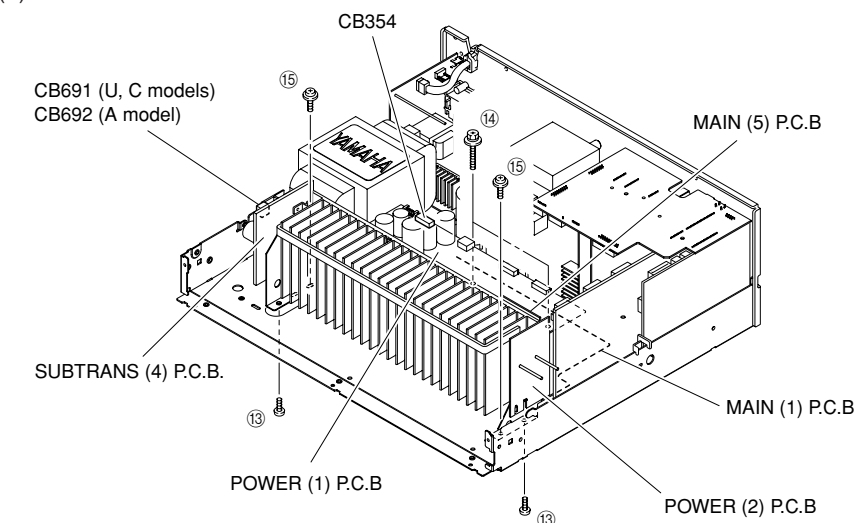

Fig. 7
**5. Removal of MAIN (1), (5), POWER (1), (2) and SUBTRANS (4) P.C.B.s**
- Remove connector CB354 and CB691 (U, C models)/ CB692 (R, T, K, A, B, G, E, L, J models). (Fig. 7)
- Remove 2 screws (13). (Fig. 7)
- \* Arrow marks (→) are printed to identify the screws (13) to be removed.
- Remove 2 screws (14) and 2 screws (15). (Fig. 7)
- Remove the MAIN (1), (5), POWER (1), (2) and SUBTRANS (4) P.C.B.s. (Fig. 7)